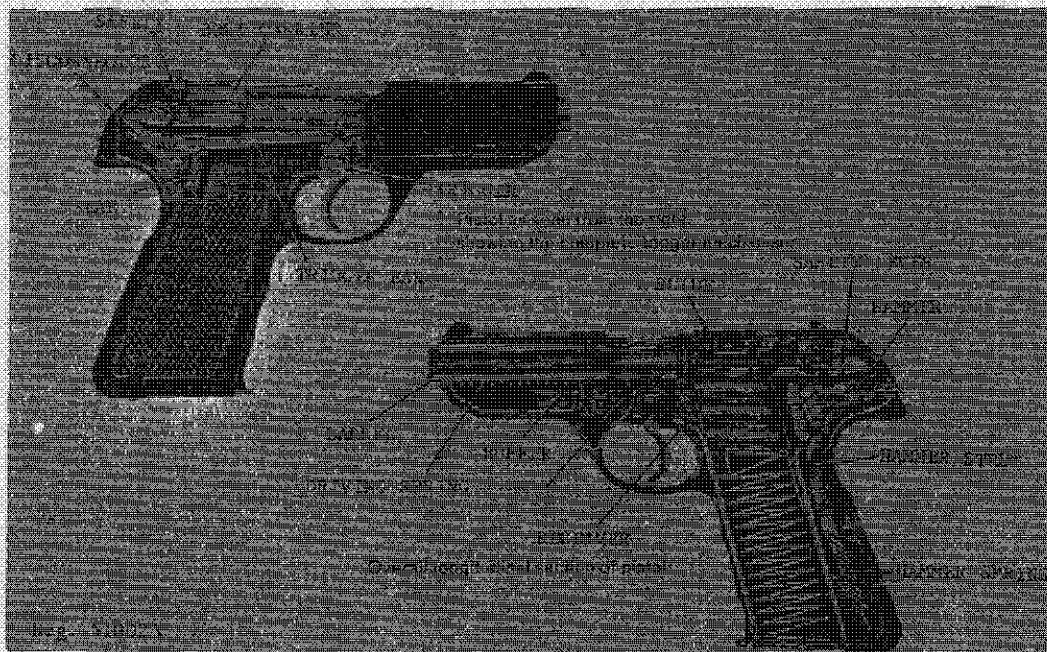

Figure 24. P9 trigger mechanism functioning.
continues and, when the rollers are fully into the bolt, the bolt and slide are then unlocked from the barrel and can move rearward. The bolt lever snaps into the bolt and holds the bolt forward in its unlocked position. The delay occasioned by the rollers' retraction allows gas pressure to drop to a safe level. The rearward thrust of the case has given enough momentum to the slide to drive it fully rearward. This rearward movement compresses the driving spring and rocks the hammer back (fig 24). The extractor holds the fired cartridge case against the bolt until the cartridge case strikes the ejector (fig 22); the case is then expelled out through the ejection port. The rearward movement stops when the inside front of the slide strikes the buffer; the driving spring then drives the slide forward. The feed rib on the bolt drives the top cartridge out of the magazine and into the
b. When the trigger is pressed, the trigger moves the trigger bar forward (fig 24). The trigger bar moves the sear from engagement with the hammer, which, under force of the hammer spring, swings forward and strikes the firing pin, firing the cartridge. As the slide recoils upon firing, the disconnecter (fig 24) is forced out of its recess in the slide, and the front end of the disconnecter moves upward. This upward movement allows the trigger bar spring to move the rear of the trigger bar up, out of engagement with the sear. The released sear snaps back against the hammer. When the slide counterrecoils, the sear engages the hammer and holds it cocked. Upon completion of the slide's forward movement, the disconnecter moves back into its recess in
f. The safety, when applied, causes the safety lever (fig 24) to move and force the disconnecter out of its recess in the slide. The front end of the disconnecter rises and allows the trigger bar to rise out of engagement with the sear. When the safety is rotated to the fire position, the safety lever allows the disconnecter to move into its recess and reestablish the connection between the trigger bar and sear.